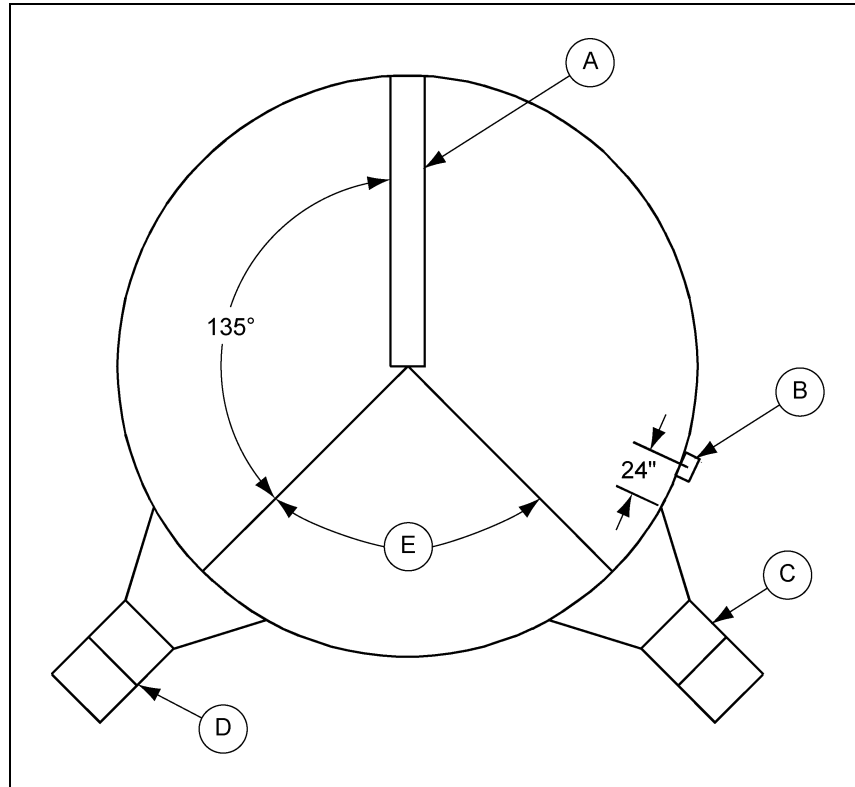

Figure 3C
IMPORTANT: When mounting two (2) heaters on a bin it is imperative that they be situated as shown in Figure 3C. Plenum thermostat must be to the right of master heater and master heater must be to the right of slave heater.